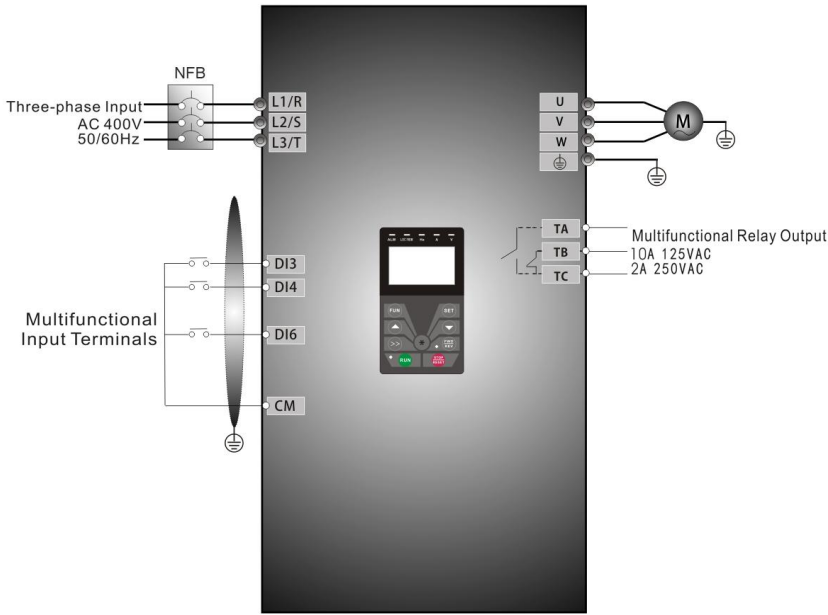

Fig 4-2 Wiring Diagram 2
(1) Connect the wires in accordance with Figure 4-2. After having checked the wiring successfully, switch on the air switch, and power on the inverter;